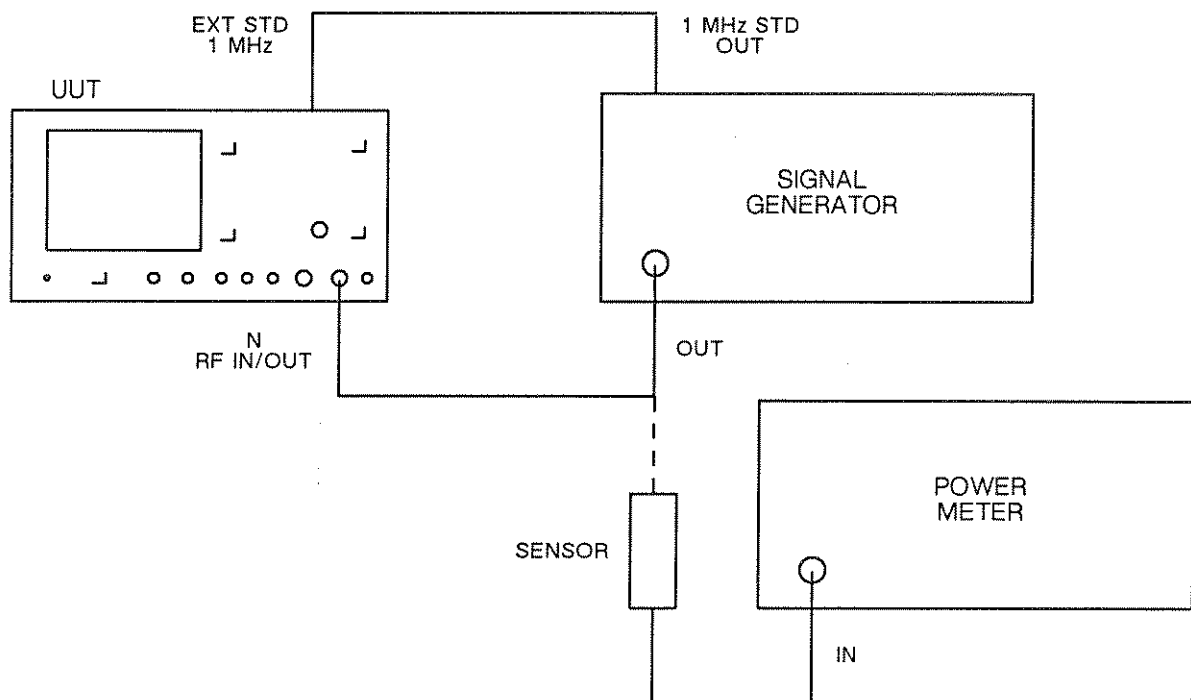

Fig. 5-10 Test equipment connections for RF frequency meter input sensitivity
- (3) Connect the power meter to the signal generator output (see Fig. 5-10) and adjust the RF level to give 5 mW indication on the power meter.